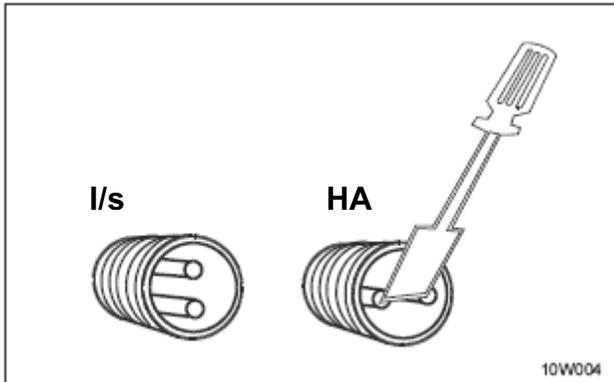

Fig. 7.1
- Bridge pin on connecting sleeve with a small screwdriver (see Fig. 7.1).